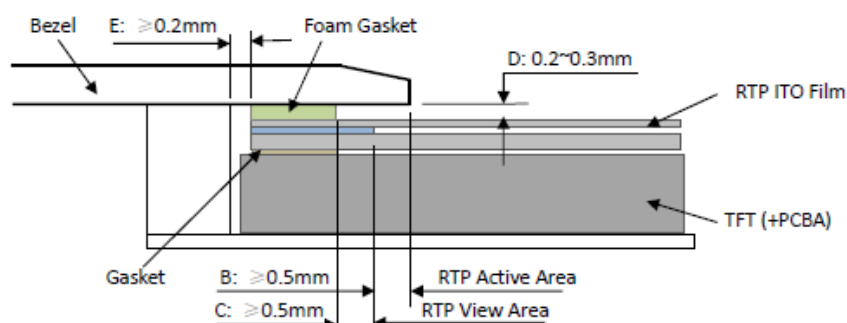

Figure 4
- It should bezel touching the RTP Active Area (A.A.) to prevent abnormal touch. It should left gap $D=0.2\sim 0.3\text{mm}$ in between. (Figure 4)
- Outer bezel design should take care about the area outside the A.A. Those areas contain circuit wires which is having different thickness. Touching those areas could de-form the ITO film. As a result bezel the ITO film be damaged and shorten its lifetime. It is suggested to protect those areas with gasket (between the bezel and RTP). The suggested figures are $B\geq 0.50\text{mm}$; $C\geq 0.50\text{mm}$. (Figure 4)
- The bezel side wall should keep space $E=0.2\sim 0.3\text{mm}$ from the RTP. (Figure 4)
- 为避免面框直接压在动作区 (A. A.) 上造成误动作, 面框与电阻触摸屏 (RTP) 之间应留有一定的空隙 $D=0.2\sim 0.3\text{mm}$ 之间. (附图4)
- 设计面框时, 要注意用面框保护触摸屏四周的非保证操作区域, 因为布线区域在此处形成一台阶, 在此区域附近操作时 ITO Film 变形较大, 容易导致 ITO 损坏而降低寿命。为保护 RTP 和避免误操作, 在 RTP 与面框之间垫缓冲物 (Gasket), 我们建议设计面框应覆盖动作区的边缘, 面框边缘到 V. A. 区的距离 $B\geq 0.50\text{mm}$; 垫圈内边缘到 V. A. 区的距离 $C\geq 0.50\text{mm}$. (附图4)
- 在设计面框与 RTP 组装时, 应考虑到面框内侧与 RTP 外侧的间距 $E\geq 0.2\text{mm}$. (附图4)